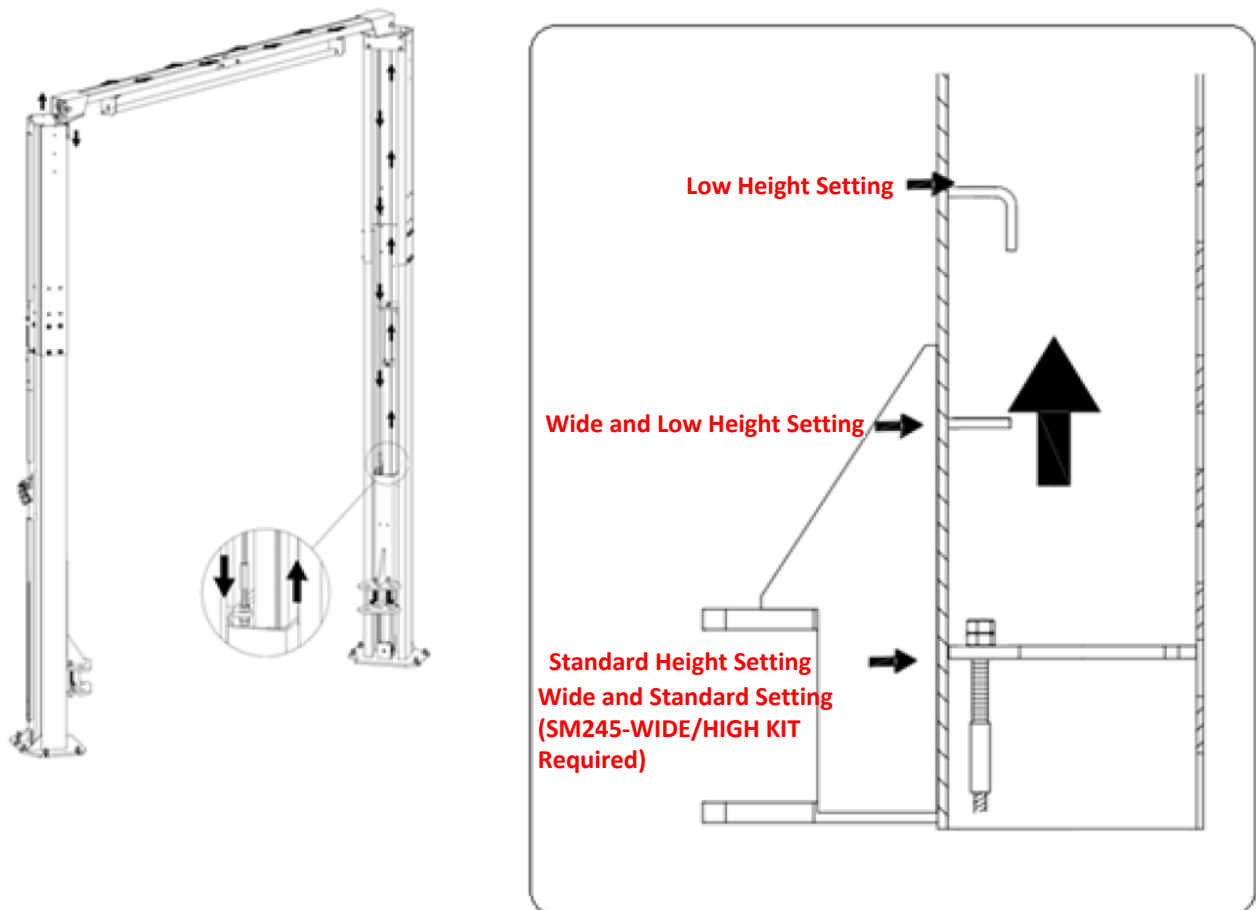

Figure 11
**NOTE!** If post extensions are to be placed in the **Low** position (-250mm), cables must be moved upwards in the carriage to the position as shown on Figure 11 on page 10. This must be done before post is raised.
**NOTE!** If hoist is to be set in the wide position (+250mm), cables must be moved downwards in the carriage to the middle position as shown on Figure 11. This must be done before post is raised.
**NOTE!** If hoist is to be set in both Standard height and Wide (+250mm each way), cables must be removed from the hoist and replaced with the new cables in the kit part # **SM245-WIDE/HIGH KIT**. Cables are mounted in the carriage at the bottom position as shown on Figure 11. This must be done before the post is raised.
**NOTE!** Cables are pre-fitted in carriages on the assumption that post extensions will be placed in **Standard** height (as shown on Figure 11).
If post extensions are to be placed in **Low** configuration (~250mm), cables must be moved up to the top mount in carriage as shown on Figure 11.
- Undo cable nuts, take cable out of current setting position and then relocate to desired setting as shown in Figure 11 above.